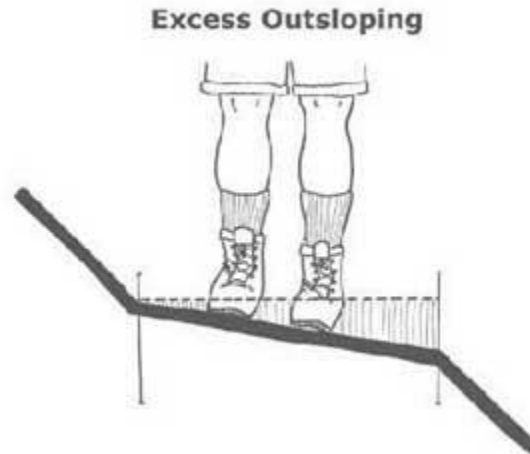

Figure 12--If your ankles start to roll,
- The best way to check the outslope is to walk the tread. If you can feel your ankles rolling downhill, there is too much outslope (Figure 12). The outslope should be barely detectable to the eye. If you can see a lot of outslope, it's probably too much. A partially filled water bottle makes a good level.